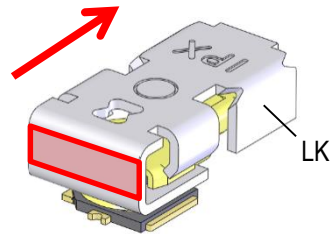

Figure 22
- ① Set a finger on the surface indicated in a red box in Figure 22 and push the LK to the direction indicated in red arrow.